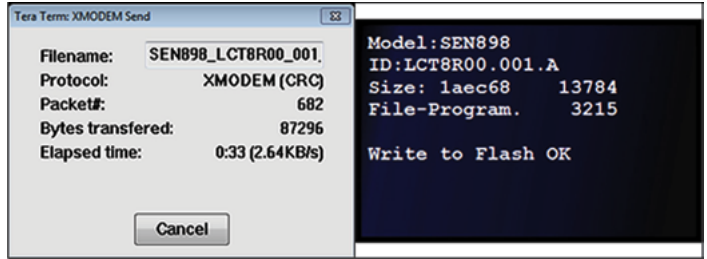
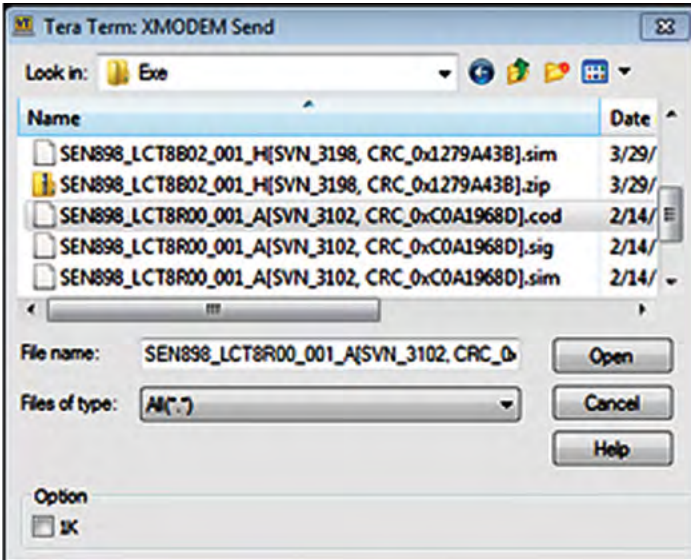

Figure 80: XMODEM Send status (left) and meter display file receive status (right)
Figure 79: XMODEM send file selector
6. When the *Tera Term: XMODEM send* file selector window opens (see *Figure 79* on page 81), locate and select the .cod extension file from your PC. After selecting the .cod extension file, click open and the status window shown on the left in *Figure 80* on page 81 opens. At this time, the meter display shows the file receive status (see the right of *Figure 80* on page 81).